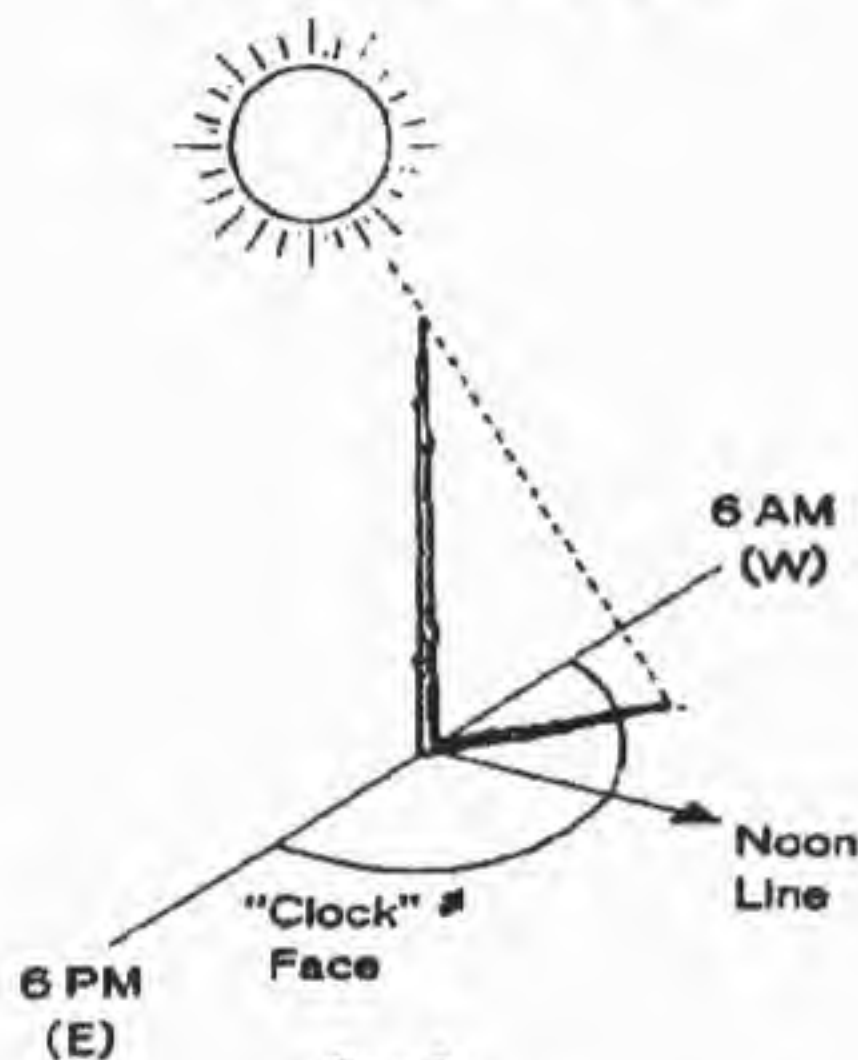

Figure 2
2. SHADOW-TIP METHOD FOR TIME OF DAY (FIGURE 2)